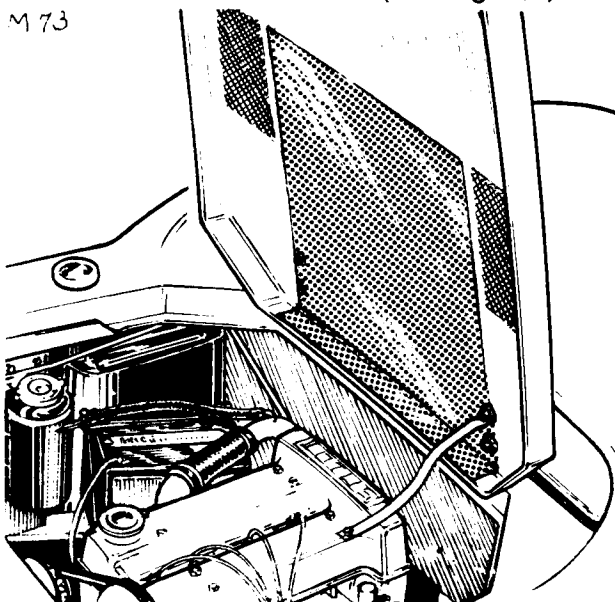

Fig. 6. ENGINE COMPARTMENT SCREEN AND EARTH.
- a. 38 cm.(15 in.) braid from bonnet hinge bolt to camshaft cover (see Fig. 6.)
4. Screening. Using Dunlop 'S.758' adhesive, attach a piece of perforated foil 53 cm.(22 in.) X 51 cm.(20 in.) to the underside of the engine compartment lid. Note that the foil is beneath the bonnet mounting nuts with the braid in contact with the foil (see Fig. 6.)